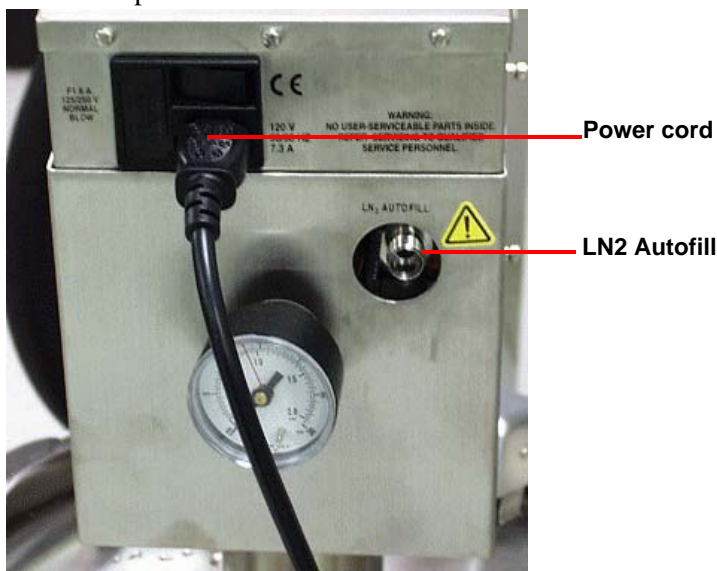

Figure 12 Power cord connected.
- 10 Attach the bulk storage feed hose to the GCA at the connection labeled **LN₂ Autofill** as shown in Figure 12 above. Use a wrench to tighten the connector.
- 11** Attach the bulk storage feed hose to the GCA at the connection labeled **LN₂ Autofill** as shown in Figure 12. Use a wrench to tighten the connector.